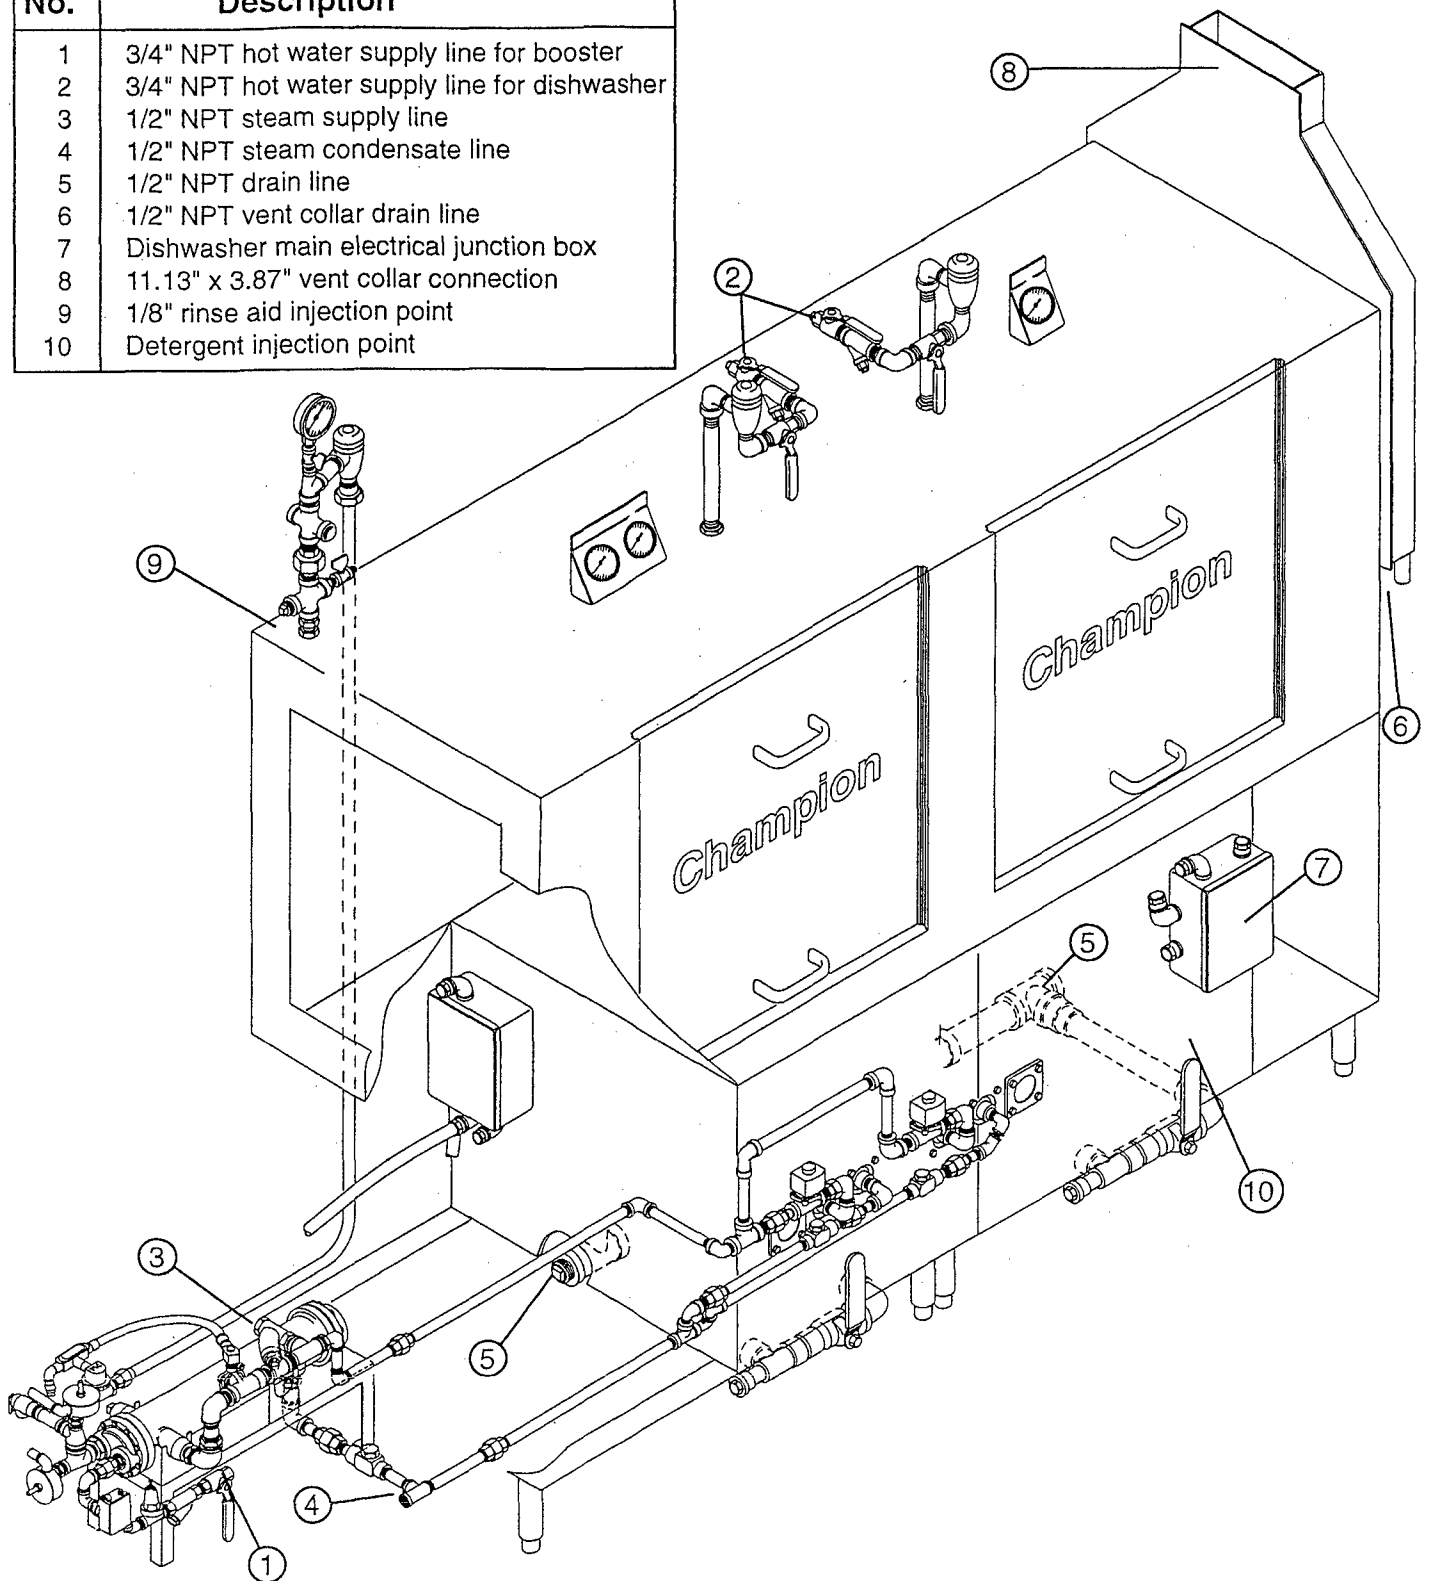
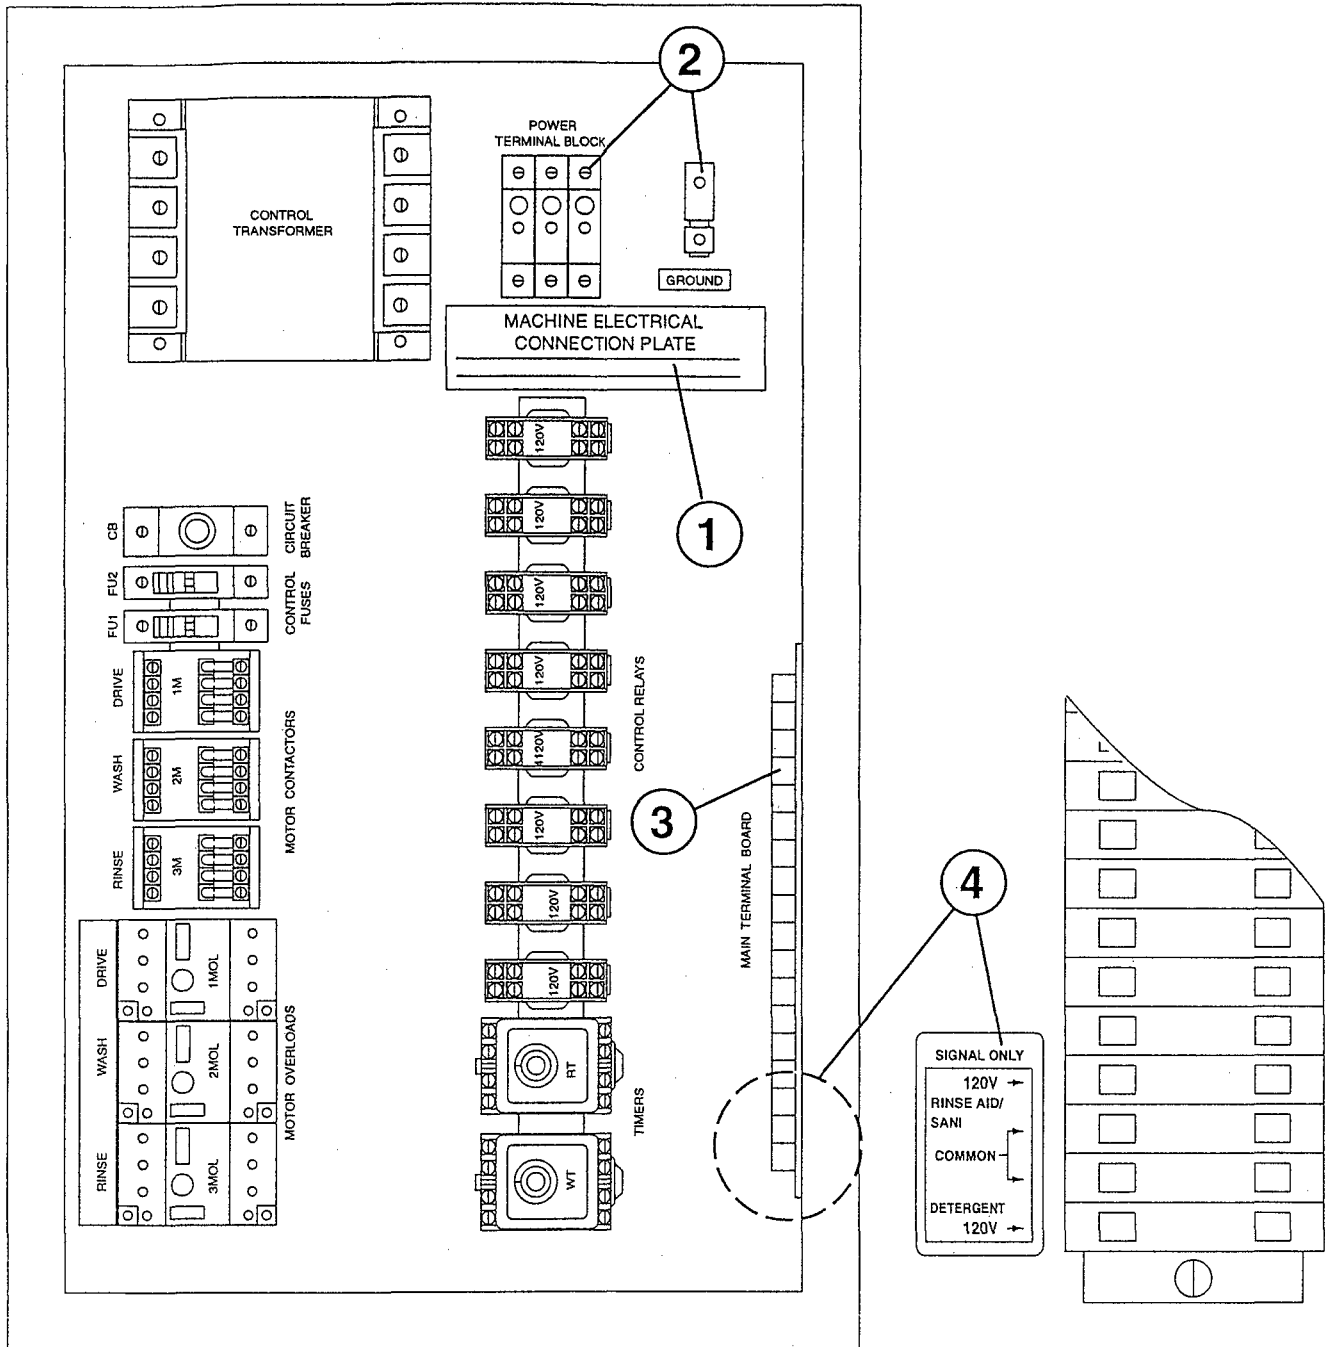

Figure 2.3
Figure 2.6
Refer to Figure 2.3 on the next page.
1. Connect a 3/4" NPT hot water supply line (110°F minimum) to the water inlet valve located at the booster. (See No. 1, Fig. 2.3.)
2. Connect a 3/4" NPT hot water line (140°F minimum) to the water inlet valve located at the top of the dishwasher. (See No. 2, Fig. 2.3.)
(See No. 3, Fig 2.3)
(See No. 4, Fig. 2.3)
Refer to Figure 2.3 on the preceding page.
The drain line is located underneath the dishwasher. (See No. 5, Fig. 2.3, page 11.)
2. Connect 1/2" NPT drain lines to the load and unload vent collars, (2) connections per collar. (See No. 6, Fig. 2.3, page 11.)
(See No. 8, Fig. 2.3, page 11).
Refer to Figure 2.3, page 11 and Figure 2.6, page 17.
1. A qualified electrician must compare the electrical power supply with the machine electrical specifications stamped on the MACHINE ELECTRICAL CONNECTION PLATE located inside the remote control cabinet (see No. 1, Fig 2.6, page 17) before connecting to the incoming service through a fused disconnect switch.
2. Refer to Figure 2.3, No. 7, on page 11. No. 7 indicates the location of the dishwasher main electrical junction box for the right to left machine. The box is located on the opposite end of the dishwasher for a left to right machine.
Refer to Figure 2.6 on page 17.
4. Install the power supply wires from the local distribution panel to the remote control cabinet at the incoming power terminal block. (See No. 2, Fig. 2.6.)
5. Install the power and control wiring between the remote control cabinet and the main electrical junction box located on the front of the dishwasher. Wire numbers are marked on the main terminal board in the remote control cabinet. (See No. 3, Fig. 2.6, page 17.) Terminal board wire numbers correspond to wires marked in the dishwasher main junction box. Match wire numbers and connect.
Refer to Figure 2.3, page 11, and Figure 2.6, page 17.
1. Chemical dispensing signal connection points are provided on the main terminal board in the remote control cabinet. (See No. 4, Fig. 2.6, page 17.) A yellow label indicates the connection points.
5. The rinse aid injection point is located in the upper final rinse piping of the dishwasher. (See No. 9, Fig. 2.3, page 11.)
6. The chemical equipment installer must cut a hole in the wash tank for a detergent sensor and a detergent injection point. (See No. 10, Fig. 2.3, page 11.)